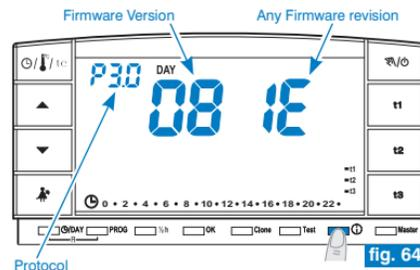

fig. 64
- Press **i** once: the display will show the radio protocol version, the installed firmware version and any revision. (example in fig. 64).